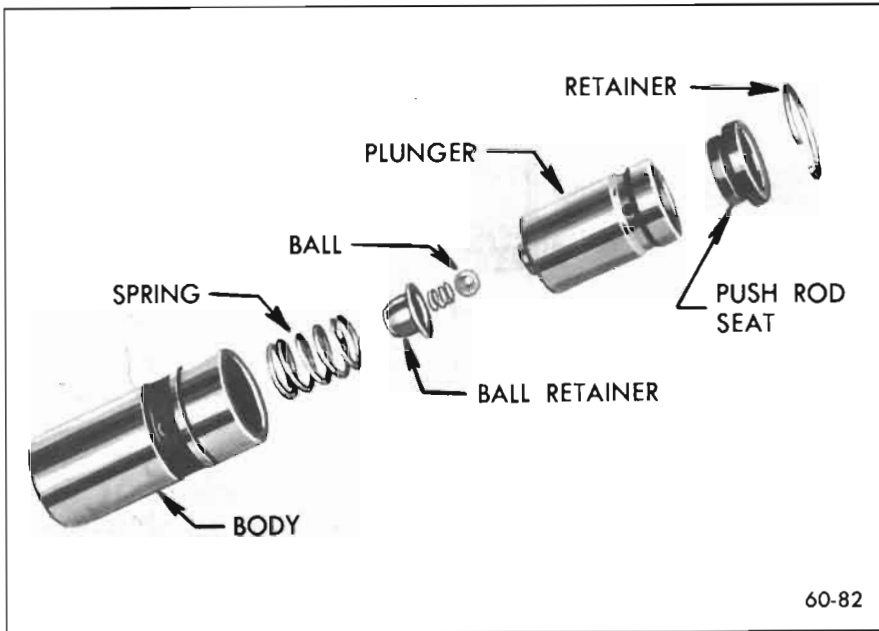

Figure 60-82—Hydraulic Valve Lifter Parts
16. Hold plunger in vertical position with feed hole up, then rinse and install the check ball, check ball spring, ball retainer, spring, and body over the plunger. See parts in Figure 60-82.